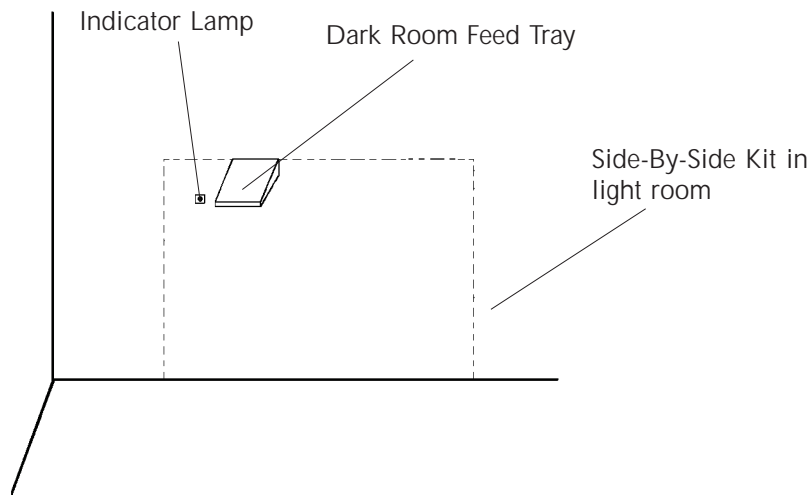

figure 2
- The Dark Room Feed Tray can only be opened when the indicator lamp (fig. 2) shows **green**. Please feed in your film then and **close the cover** again. The indicator lamp will turn to red. The next film can be fed in as soon as the light changes back to green and the buzzer sounds.
When a cassette has already been inserted into the ML 700/ML 700 Plus, the indicator lamp of the Side-By-Side Kit (fig. 2) shows **red** and the Dark Room Feed Tray is locked.